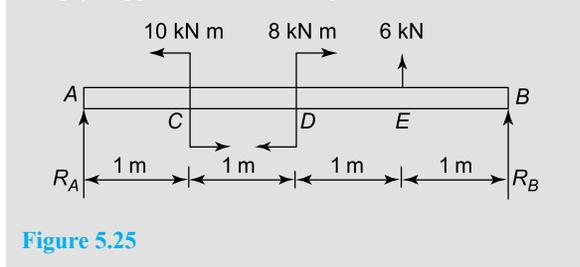

Figure 5.25
**Problem 14.** Determine the reactions for the simply supported beam of Figure 5.25.